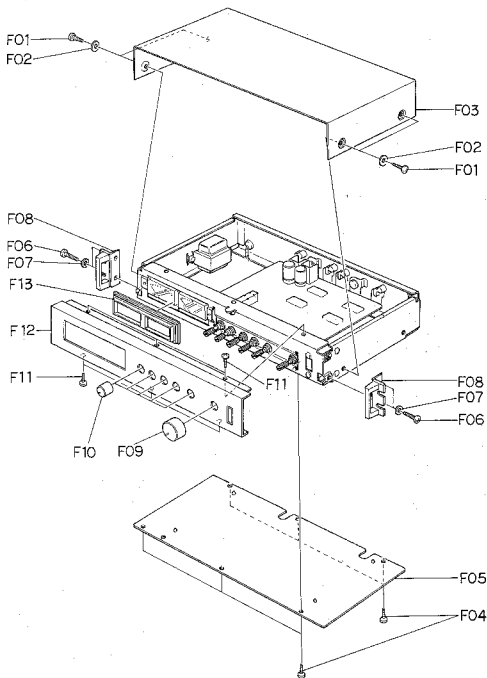

Fig. 3.1
- (1) Refer to Fig. 3.1. Remove Front Panel Ass'y referring to item 3.4.
- (2) Remove the connector and wires connected by wrapping from F02 (Main P.C.B. Ass'y).
- (3) Remove F01, then disassemble F02 (Main P.C.B. Ass'y).
- (1) Refer to Fig. 3.1. Remove Top Cover Ass'y referring to item 3.1.
- (2) Remove F03 and F04, then disassemble F05 (Power Transformer).
- (2) Remove F06, then disassemble F07 (Meter Ass'y).
- (3) Remove F08 (Meter Band), then disassemble F09 (Meter).
- (4) Remove F10, then disassemble F11 (Lamp P.C.B. Ass'y).
- (2) Remove F12, F13 (Power Switch Flange) and F14, then disassemble F15 (Power Switch).
- (1) Refer to Fig. 3.1. Remove Top Cover Ass'y and Bottom Cover Ass'y referring to items 3.1 and 3.2.
- (2) Remove F01, then disassemble F02 (Rear Panel Ass'y).
- (2) Pull out F03 (Volume Knob). Remove F04 and F05, then disassemble F06 (Volume 10 K $\Omega$ (B)) and F07 (Volume 50 K $\Omega$ (B)).
- (3) Remove F08, then disassemble F09 (2P Pin Jack).
Refer to Fig. 3.1. Remove F01 and F02, then disassemble F03 (Top Cover Ass'y).
Refer to Fig. 3.1. Remove F04, then disassemble F05 (Bottom Cover Ass'y).
Refer to Fig. 3.1. Remove F06 and F07, then disassemble F08 (Side Panel Ass'y).
- (1) Refer to Fig. 3.1. Remove Top Cover Ass'y, Bottom Cover Ass'y and Side Panel Ass'y referring to items 3.1 through 3.3.
- (2) Pull out F09 (Volume Knob A Ass'y) and F10 (Volume Knob B Ass'y). Remove F11, then disassemble F12 (Front Panel Ass'y).
- (3) Remove F13 (Meter Escutcheon).